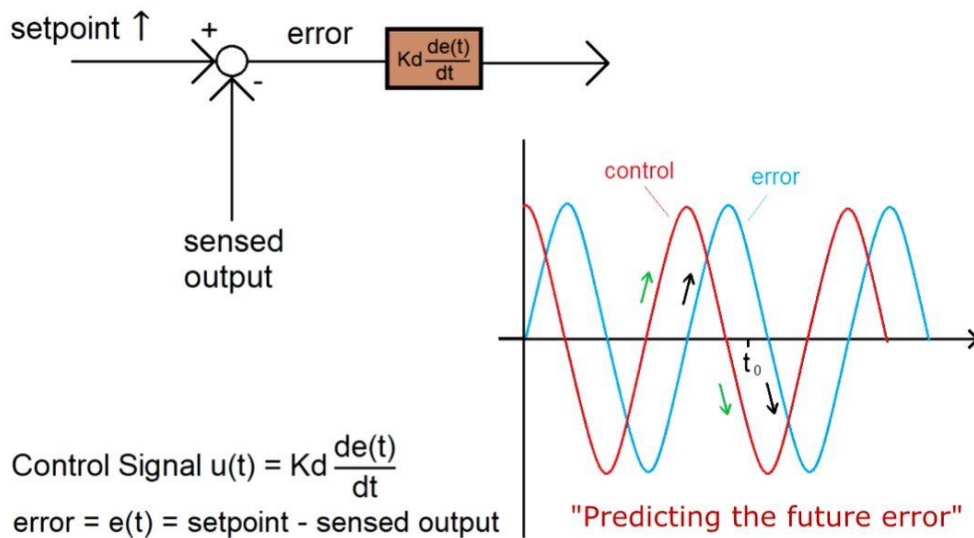

Fig 5 D-controller explaining the leading of control signal
- Term **D** is a best estimate of the future trend of the SP – PV error, based on its current rate of change. It is sometimes called "anticipatory control", as it is effectively seeking to reduce the effect of the SP – PV error by exerting a control influence generated by the rate of error change. The more rapid the change, the greater the controlling or dampening effect. The derivative term takes the rate of change of the error as its control signal by applying the step change in the setpoint. In this case we again get a positive error in term in response produces a control signal. The main benefit of the derivative term is that for a sudden change maybe due to disturbances or a change in the setpoint the controller reacts quickly and aggressively, but this is a response to a stepper when an overshoot takes place. The error tends to be more sinusoidal as opposed to a step. Figure 5 shows the control signal is leading the error signal, before the error goes up the control goes up and before the error swings back down the control is already been there. In this way the D-control is predicting the future error over and it's in this leading behavior that allows it to reduce the overshoots before they become significant. Adding the derivative term can reduce the overshoots.